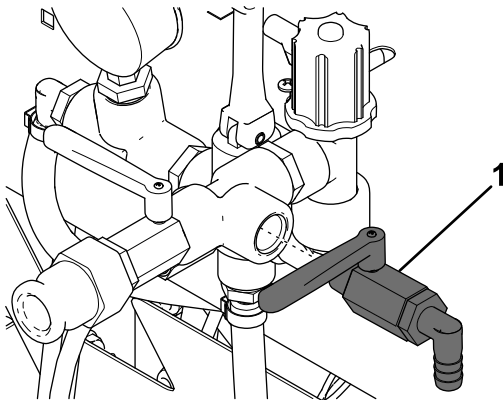

**Figure 4**
3. Apply thread locking compound to the end of the return valve and secure it to the sprayer throttle (Figure 4).